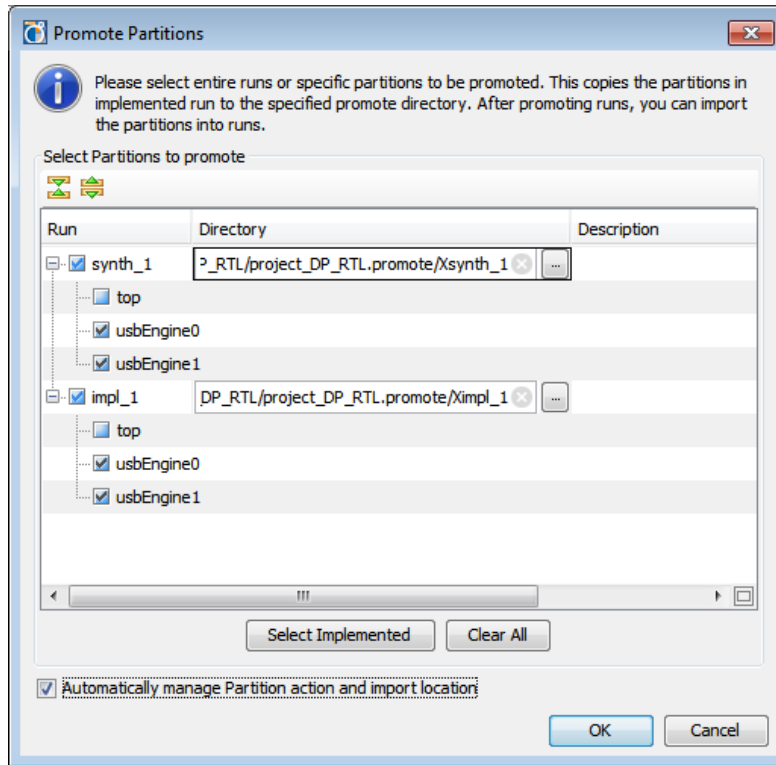

Figure 11: Promote Partitions Dialog Box
4. Verify that the two **usbEngine** module instances are checked for promoting for both synthesis and implementation, as shown in Figure 11.